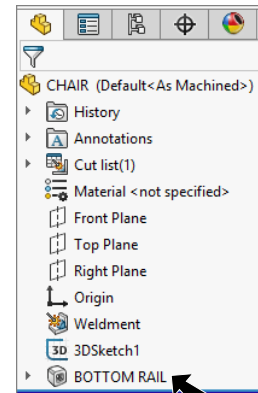

Fig. 16
Step 1. Rename **Chair Wood 2 x 4 (1)** feature to **BOTTOM RAIL** in the Feature Manager, **Fig. 16**. To rename, click **Chair Wood 2 x 4 (1)** name in Feature Manager and press **F2** on keyboard. Key-in **BOTTOM RAIL**.